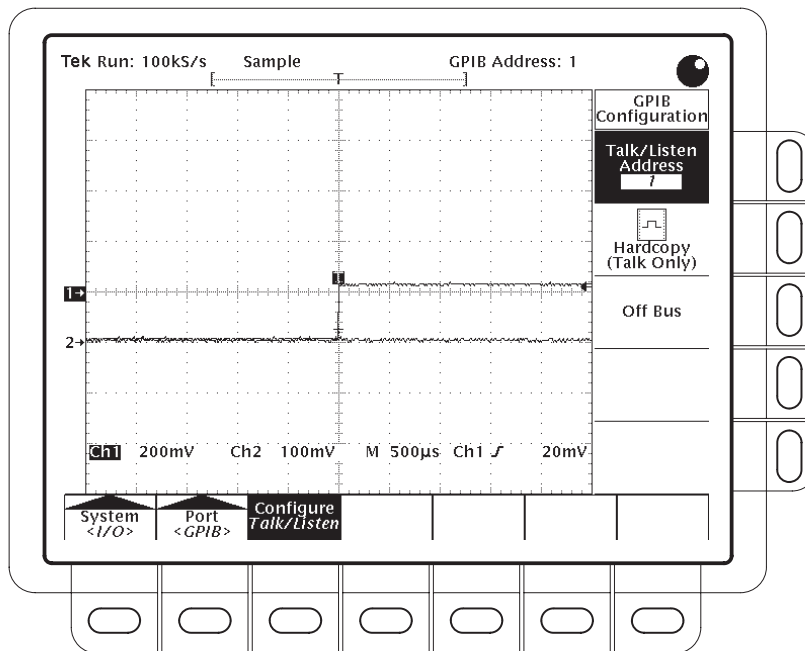

Figure 3-26: Utility Menu — System I/O
1. Press **SHIFT UTILITY** → **System** (main) → **I/O** (pop-up) → **Configure** (main) (see Figure 3-26).